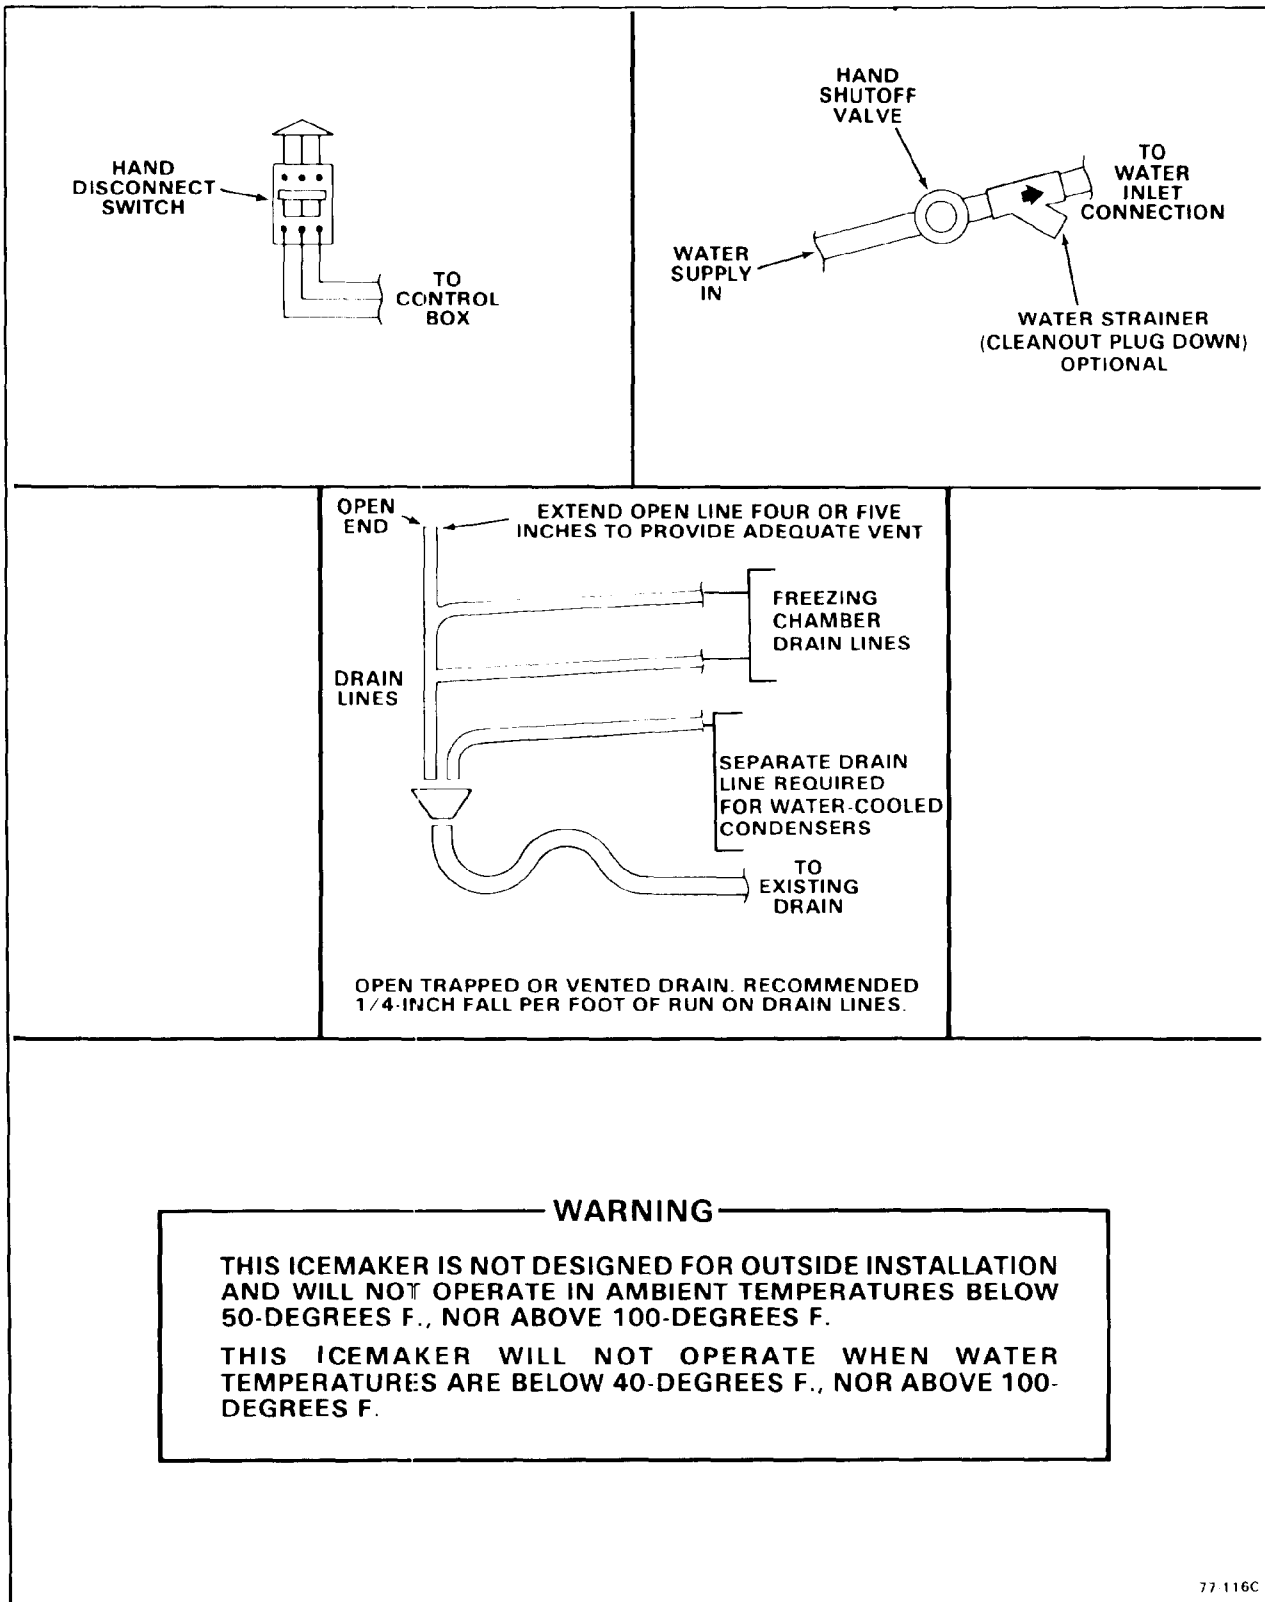

Figure 1-1. Installation Practice
C. DRAIN CONNECTIONS: All drains are gravity type and must have a minimum of 1/4-inch fall per foot on horizontal runs. The drains to be installed to conform with the local plumbing code. Install separate drain line for discharge water from the water-cooled Condenser. Install a vertical open vent on drain line to ensure good venting. The drain receptacle should be an open, trapped or vented construction. See Figure 1-1.